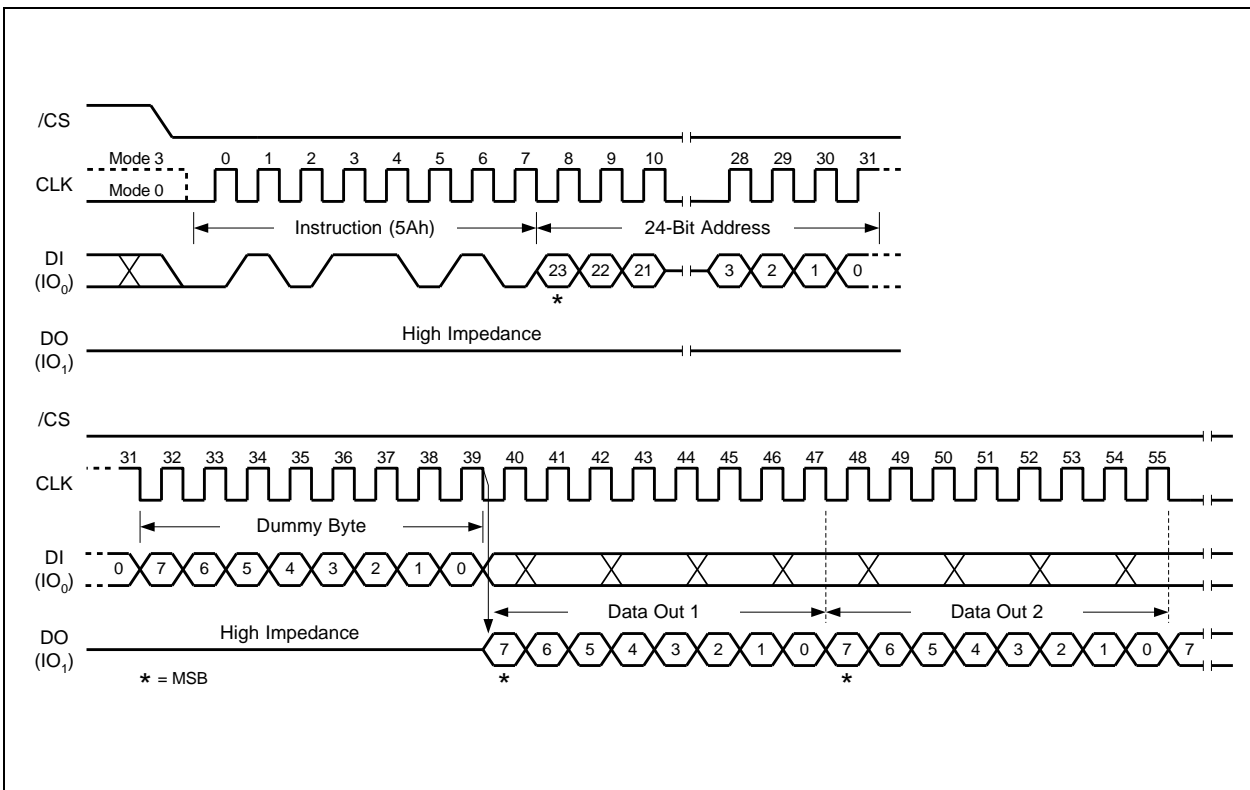

Figure 44. Read SFDP Register Instruction Sequence Diagram
The Read SFDP command is initiated by driving the /CS pin low and shifting the command code “5Ah” followed by a 24-bit address (A23-A0)(1) into the DI pin. Eight “dummy” clocks are also required before the SFDP register contents are shifted out on the falling edge of the 40th CLK with the most significant bit (MSB) first as shown in Figure 44. For SFDP register values and descriptions, please refer to the Winbond Application Note for SFDP Definition Table.